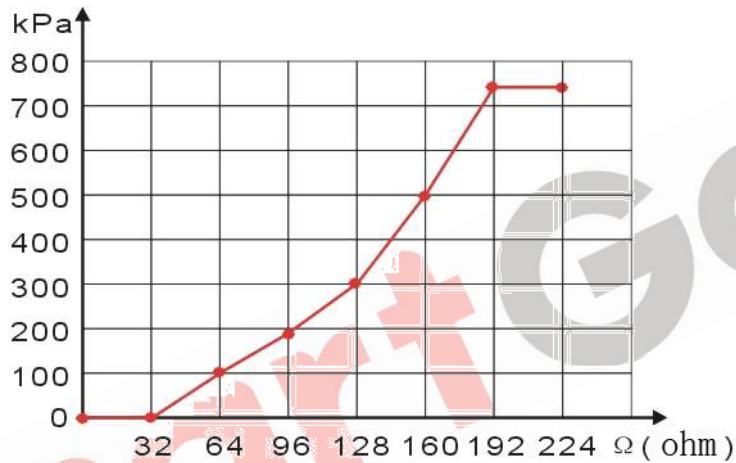

Fig.4 – Curve Setting
----- The Y-axis values of the several points at the headmost and backmost can be set the same. Please see Fig. 4.